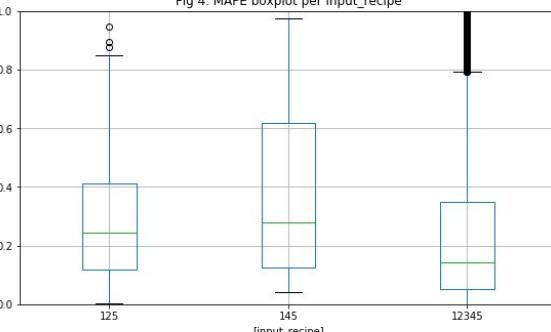

Fig 4. MAPE boxplot per input\_recipe
- Prediction is much better for a full recipe** (eg all the phases). (See Fig 4.)